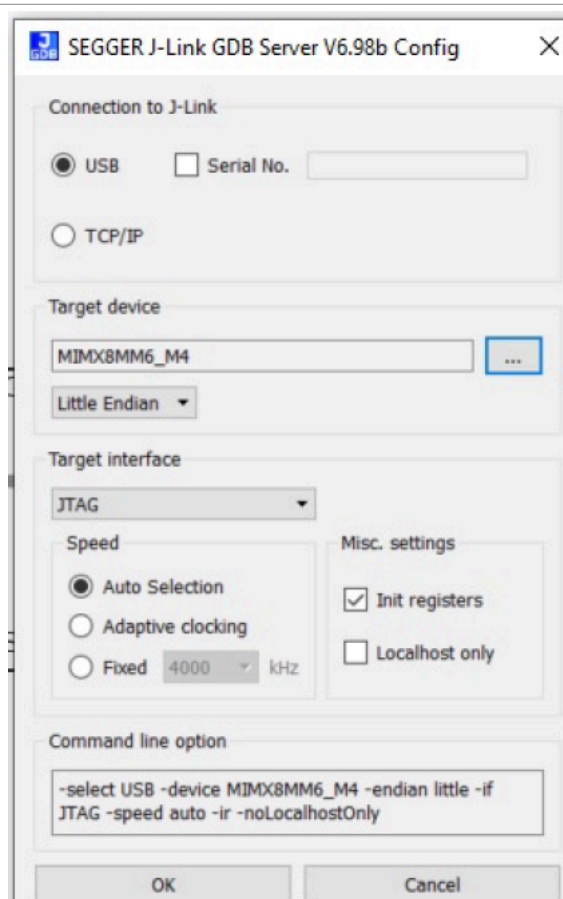

Figure 123. J-Link GDB Server application window
- After server is launched, modify the settings as shown in Figure 123. The target device selected for this demo is **MIMX8MM6_M4**.